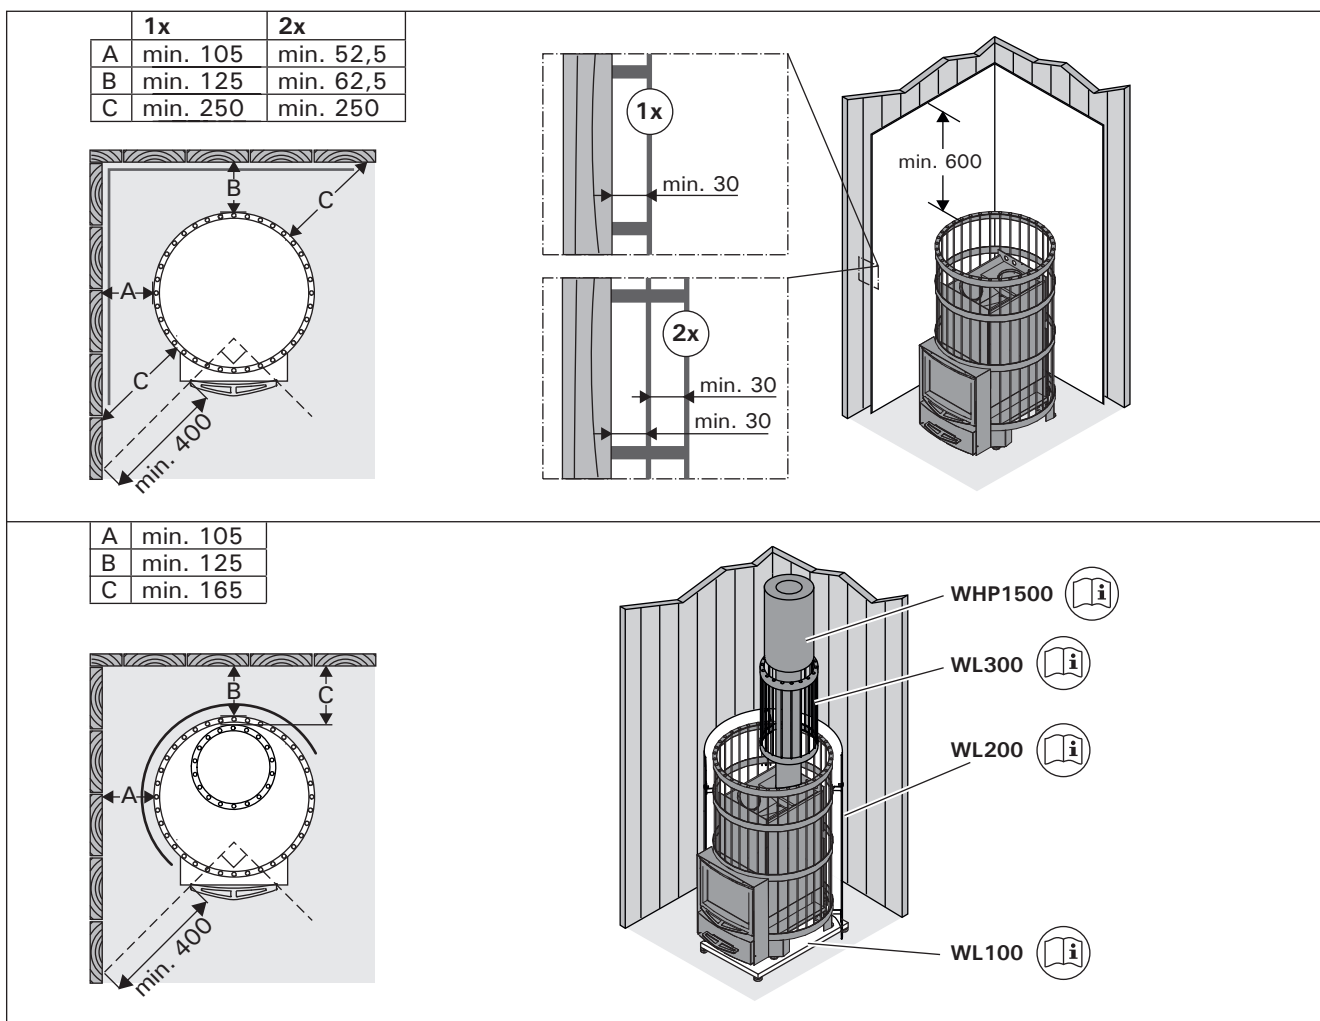

Figure 9. Protective covers (all dimensions in millimeters)
See figure 9. The specified safety distances from inflammable materials can be reduced to half with a single protective cover and to one-fourth with a double protective cover.
- Legend protective sheath WL200. A protective sheath to be attached to the stove. Equivalent to a single protective cover. Figure 9.
- Legend smoke pipe cover WL300. Installed around the smoke pipe and filled with stones. Suits both straight and angled smoke pipes. Figure 9.